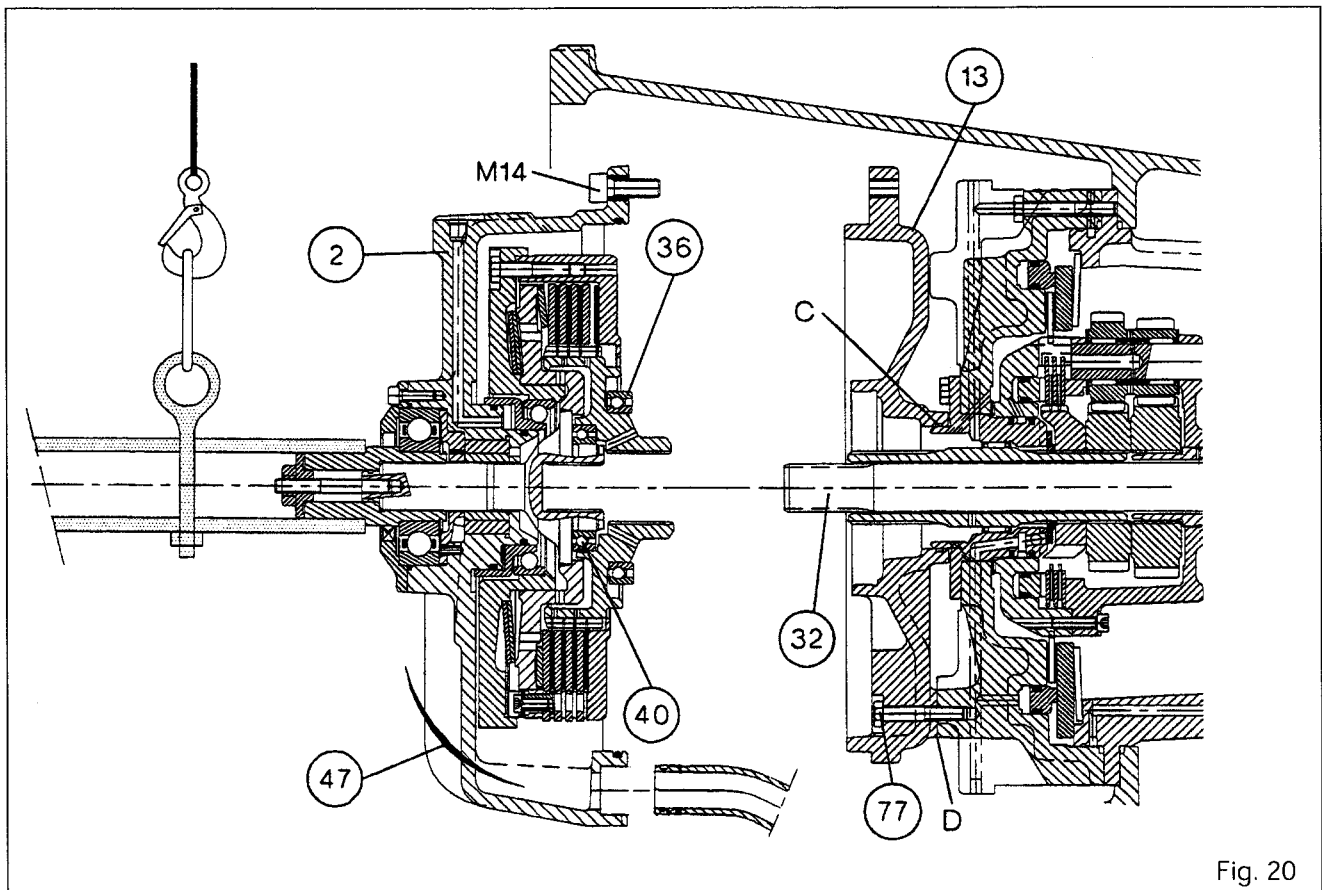

Fig. 20
**Clutch - Spring loaded****G. Speedshift version (Fig. 20)**